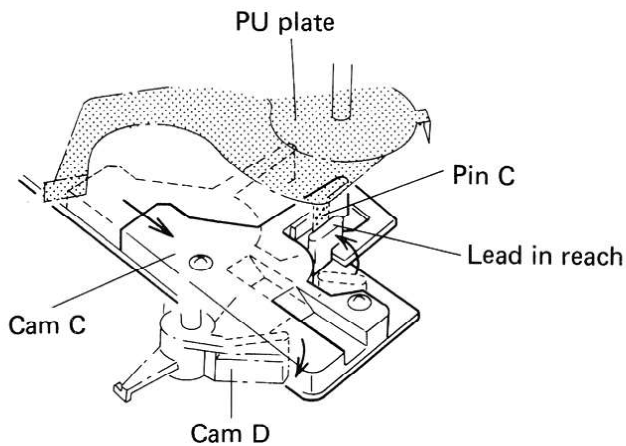

Fig. 8-10
When plate A moves towards the tonearm, cam C fixed to the right hand of plate A presses against cam D attached to the arm base (Fig. 8-10). Cam D thus rotates in the clockwise direction, thereby lifting the arm elevation, and resulting in the raising of the tonearm.
8. Just before plate A completes its movement across towards the tonearm, pin C of the PU plate is clasped by the lead-in latch due to the action of the hole in the sub-panel unit (Fig. 8-10). And when plate A commences to return towards the center shaft, the PU plate moves in a clockwise direction, thereby carrying the tonearm across to the record.